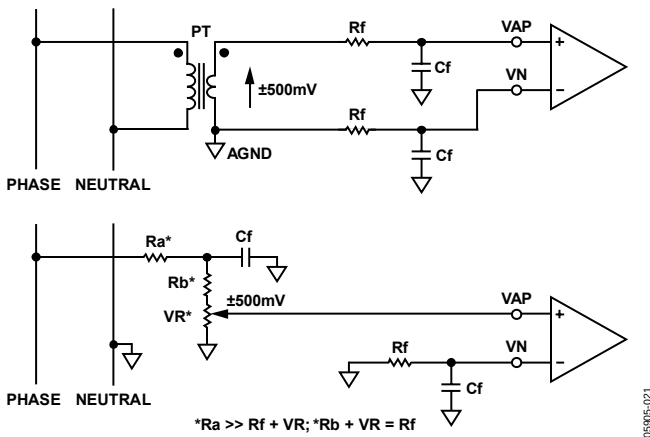

Figure 16. Typical Connections for Voltage Channels
Figure 16 shows two typical connections for the voltage channel. The first option uses a potential transformer (PT) to provide complete isolation from the main voltage. In the second option, the ADE7752B is biased around the neutral wire, and a resistor divider is used to provide a voltage signal proportional to the line voltage. Adjusting the ratio of  $R_a$ ,  $R_b$ , and  $VR$  is a convenient way of carrying out a gain calibration on the meter.  $VR$  can be implemented using either a potentiometer or a binary weighted series of resistors. Either configuration works, however, the potentiometer is subject to noise over time. Two fixed value resistors can be used in place of  $VR$  to minimize the noise.